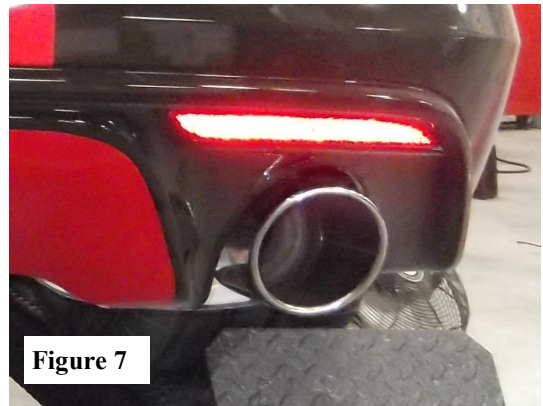

Figure 7
3. Check your exhaust system for proper clearance under the vehicle and also for tip position to the valence opening. (See Fig. 7)